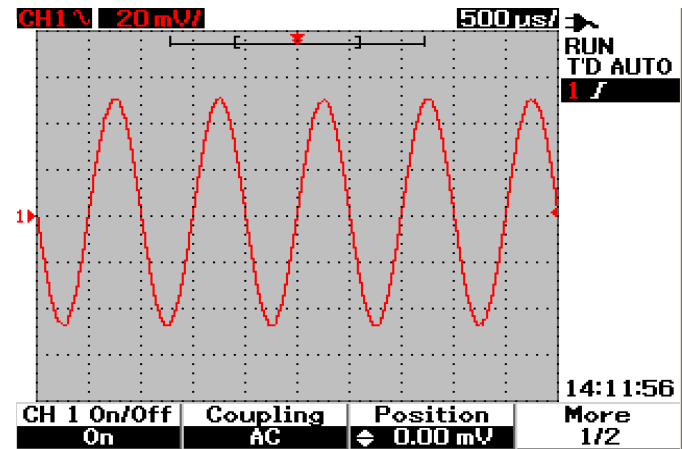

Figure 3-3 Adjust vertical position for the waveform displayed.
You can adjust the waveform vertically by pressing the F3 softkey. The following Figure 3-3 displays the vertical position adjustment setting.
- 2 As you turn the rotary switch  , the corresponding voltage value is displayed under the Position header shown in Figure 3-3. This voltage value indicates how far the ground reference is from the center of the screen.